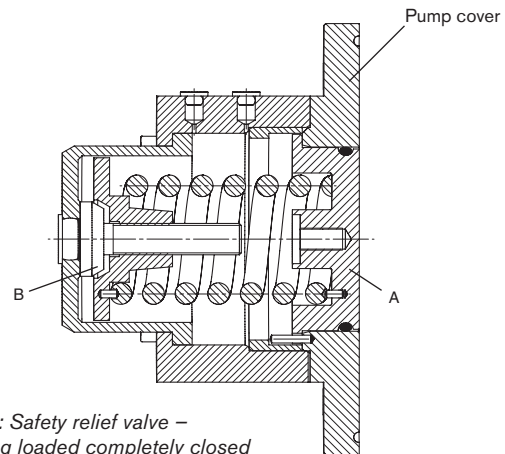

Fig 1: Safety relief valve –
Fig. 1 and 2 are showing the design of the spring loaded safety relief valve. The valve head (A) is subjected to the fluid pressure in the rotor case on one side and by spring force on the other side. The spring is acting directly on the valve head.
Fig. 1 shows the safety relief valve completely closed. The valve head (A) is in line with the front face of the pump cover. The valve has been adjusted by compressing the spring via the spring adjusting screw (B).